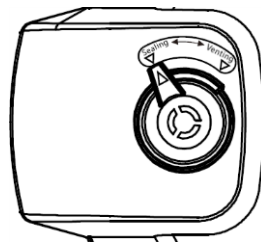

Figure 15
4. Adjust the Pressure Limiting Valve (3) to the "Sealing" position, and ensure that the Float Valve (4) sinks.
5. When adjusting the Pressure Limiting Valve (3) to either the " Sealing " or the " Venting " positions, line up the marking on the Pressure Limiting Valve (3) with the arrow on the Handle (1) as shown in Figure 15.